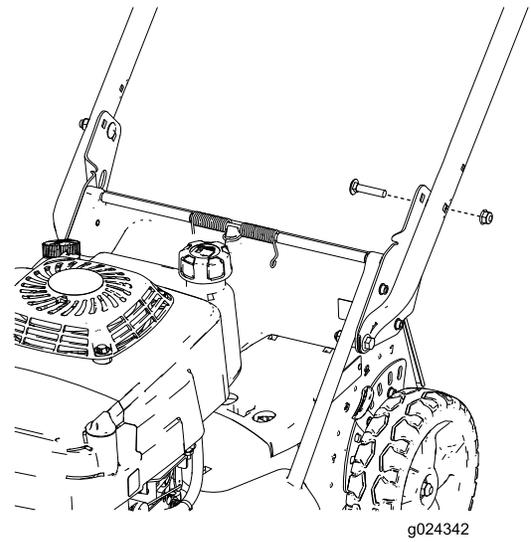

**Figure 4**
- Stand behind the machine in the operating position to determine the handle height that is most comfortable for you (Figure 4).